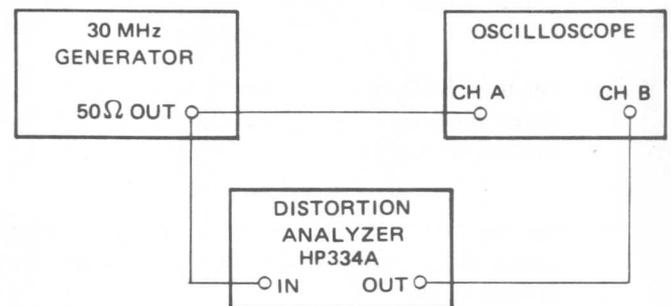

Figure 4-2. Distortion Test Setup
- Set the FREQ (Hz) switch to X 1K, the frequency dial to 1.0 and the WAVEFORM selector to . Connect the 50Ω OUT (HI) to a distortion analyzer loaded with a 50Ω terminator. (See Figure 4-2 for test setup.)